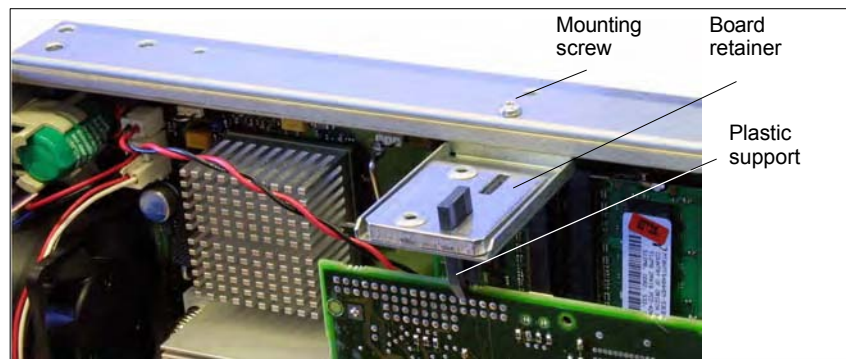

Fig. 2-4 Mounting of the module
6. Remove the fastening screw (Fig. 2-4) and remove the module holding-down device.